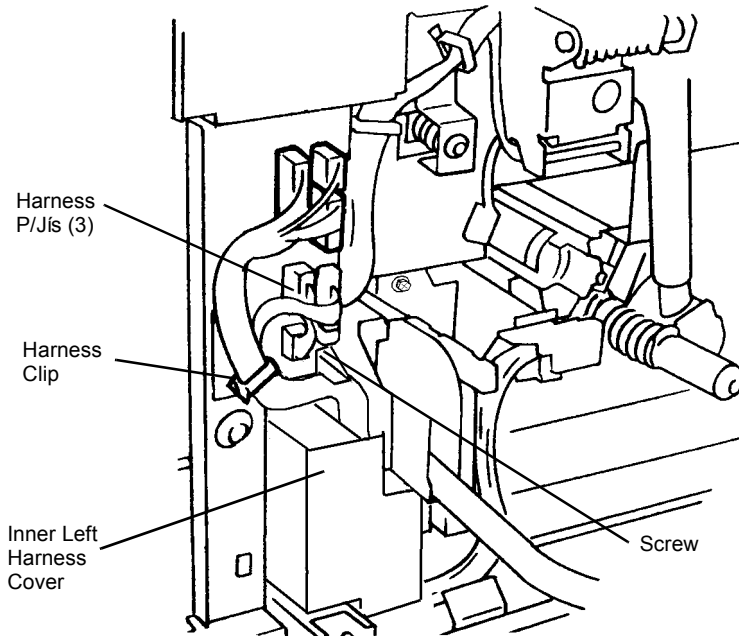

Figure 2 Disconnecting Developer Harnesses
11. Disconnect Developer Housing Harnesses (Figure 2).
- b. Disconnect Harness P/JIs (3).